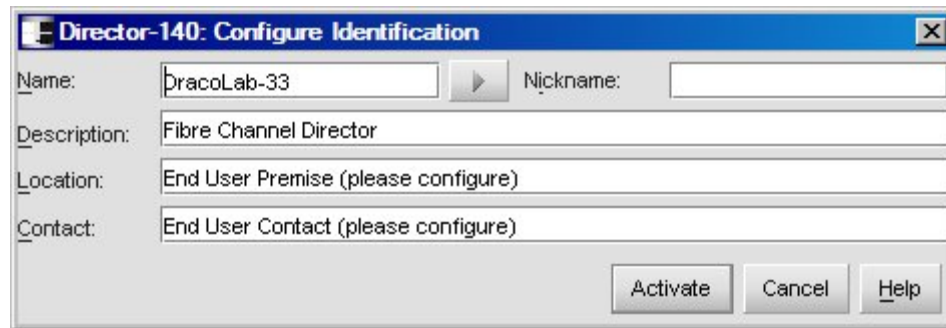

Figure 3.45. Configure Identification dialog box
2. On the menu bar, select **Configure > Identification**. The Configure Identification dialog box displays, as shown in Figure 3-45.